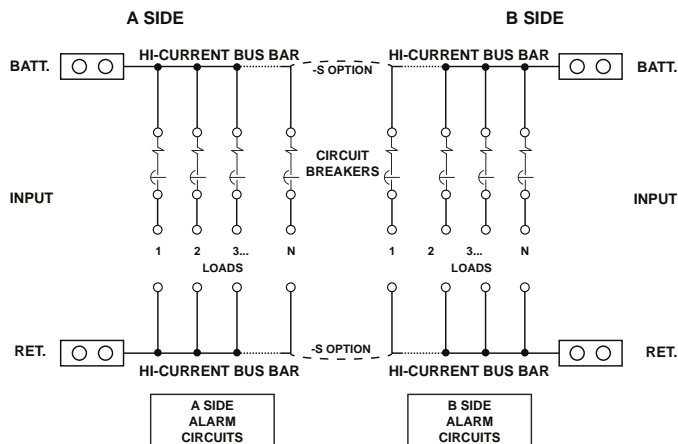

Figure 2. Block Diagram
- 6.1 **Power Distribution Circuits.** A simplified schematic diagram of the distribution panels is shown in Figure 2. The battery input to each load connects to a high-current copper bus bar from which the individual fuses or circuit breakers distribute power to the loads. The return input connects to a similar bus bar to which the individual loads terminate. The A and B loads are totally independent and isolated with the exception of models incorporating the ‘S’ option.